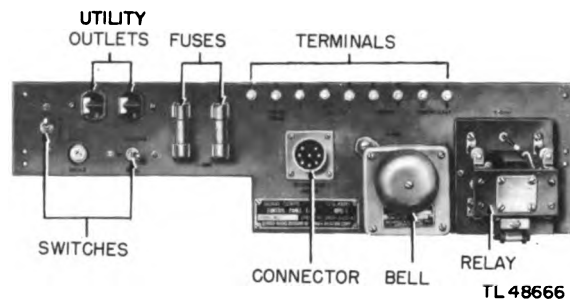

Figure 4-50. Antenna control panel.
b. Maintenance Procedure (fig. 4-50).
(1) The switches for corrosion and loose mounting (par. 2-14).
(2) The relay for bad contacts, corrosion, loose mounting, and faulty operation (par. 2-13).
(3) The bell for loose mounting, corrosion, and damage.
(4) The connector and the jack for corrosion and loose mounting (par. 2-9).
(5) The wiring to the panel for loose lacing and frayed insulation. Check the electrical connections and the terminal board for looseness and corrosion (par. 2-8).
(6) The control panel for loose mounting.